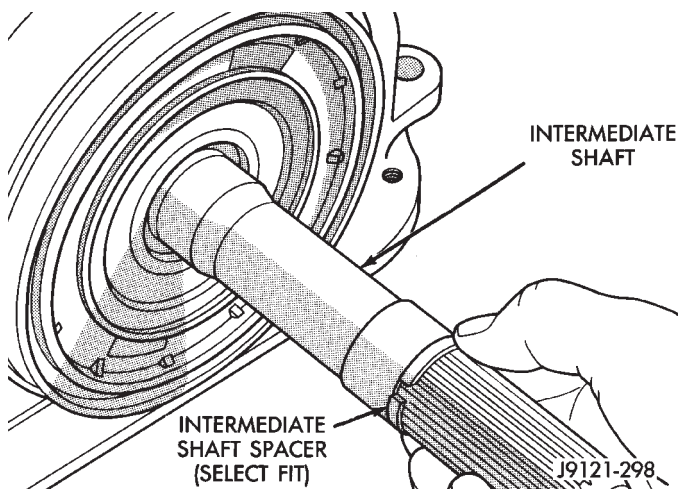

Fig. 185 Intermediate Shaft Spacer Location
(2) Remove intermediate shaft spacer (Fig. 185). Retain spacer. It is a select fit part and may possibly be reused.